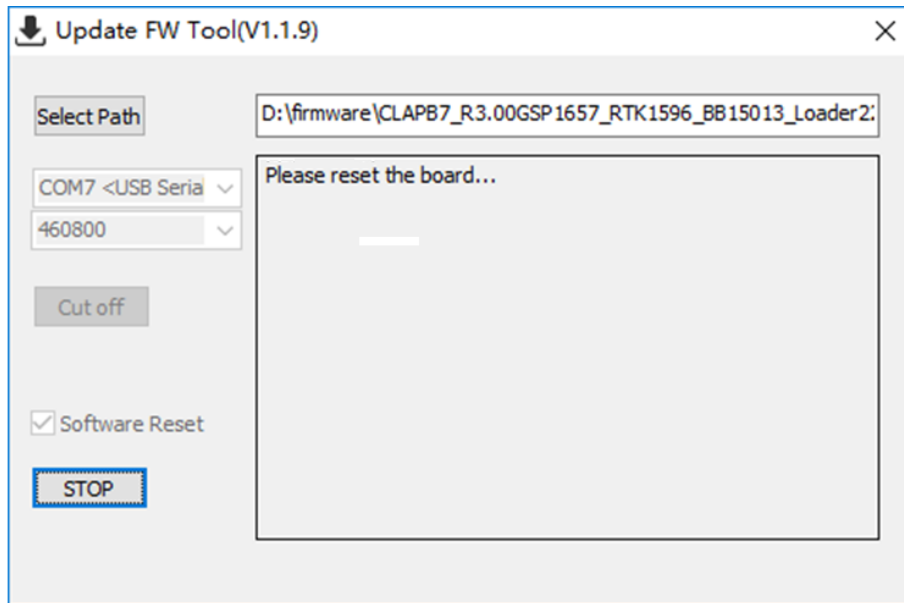

Figure 6-7 Click "START"
Step 5. Check "Software Reset", then click "START", the dialog shown in the Figure 6-7